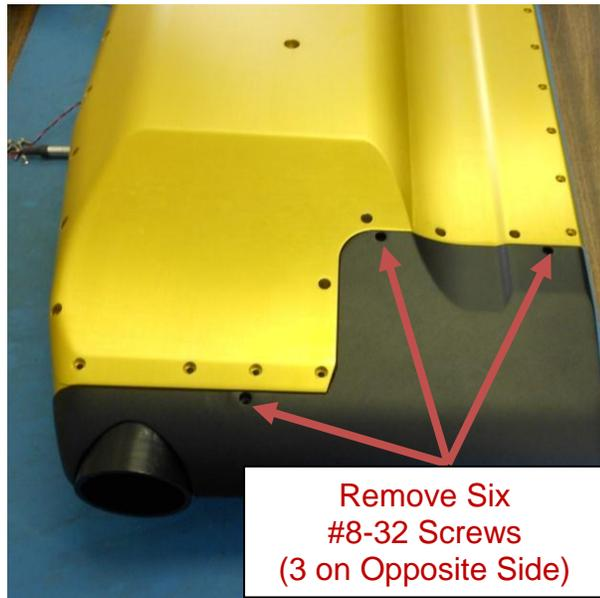

Figure 3.1.1: Screw locations for fairing removal required for purging.
1. Remove the six #8-32 socket head cap screws using the 9/64" hex key fastening the rear fairing. Note where the screws are located as they are not all the same length. See **Figure 3.1.1**.
8. Replace the rear fairing. Use the 9/64" hex wrench and the six socket head cap screws previously removed in **Figures 3.1.1** and **3.1.2**